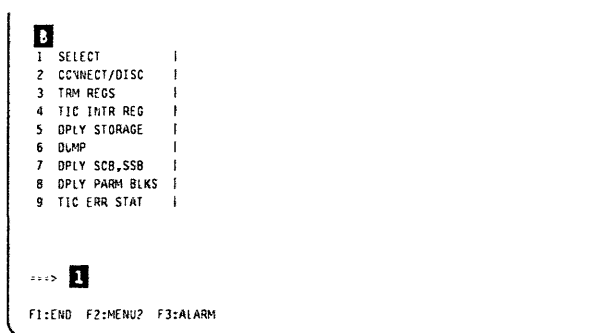

Figure 5-2. TRSS Function Selection Screen
3. Type **2** in the TRSS function selection screen (see Figure 5-2 on page 5-5), then press **SEND**.